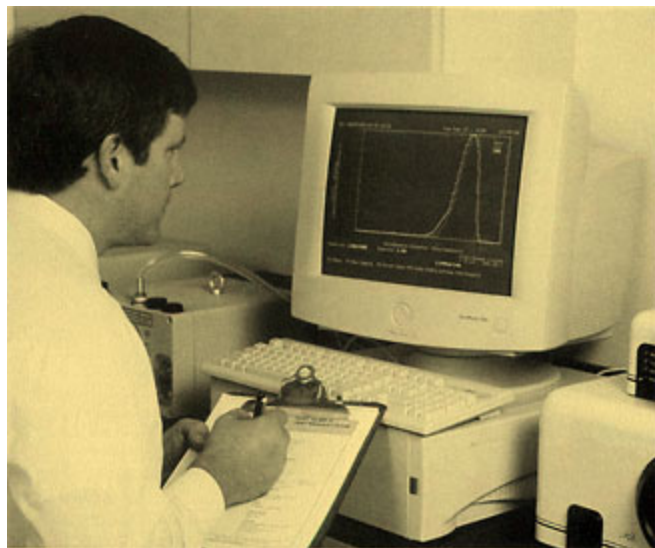

Figure 1 - A dual-laser particle analyzer is used in bench testing to perform particle size analysis.
1. Particle size analysis, which reveals the dust's particle size distribution down to the submicron range. This information determines the filtration efficiency required to meet emissions standards. The dual-laser particle analyzer shown in Figure1 can pinpoint both the count (the number of particles of a given size) and the volume or mass spread of the dust. Knowing both is important because many dusts are mixed.